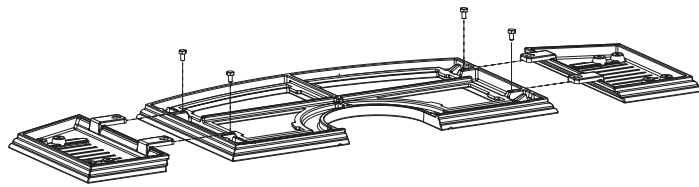

Figure 19
3. Remove (4) 1/4-20 hex head bolts from the outer edges of cast iron top.
4. Place left and right side shelves in place shown in Figure 19.
5. Replace (4) 1/4-20 hex head bolts to attach side shelves to cast iron top, be sure shelf is tight to casting top before fully tightening bolts.
6. Remove (8) 1/4-20 hex head bolts from side shelves.
Note: Due to inherent properties of the casting process, non-combustible shims may be required to level accessory side shelves to the casting top. These shims are provided in the form of washers to be used on either side of the bolts. See Figure 19. If accessory shelf angles downward, toward the floor, washer(s) will need to be added to the center side of the bolt. Conversely, if the accessory side shelf angles upward, toward the ceiling, washer(s) will need to be added to the outside of the top casting side of the bolt. See Figure 22.